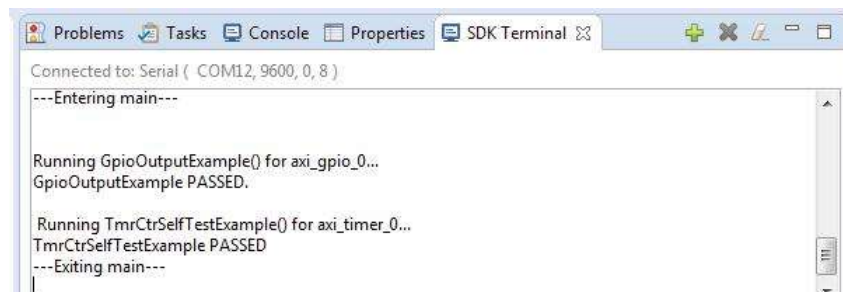

Figure 43: Terminal Output via the Serial Connection
5. Your terminal window should now receive text from the board, similar to Figure 43. Try pushing the red **CPU RESET** button on the Nexys-4 board and examine both the LEDs and the terminal output.